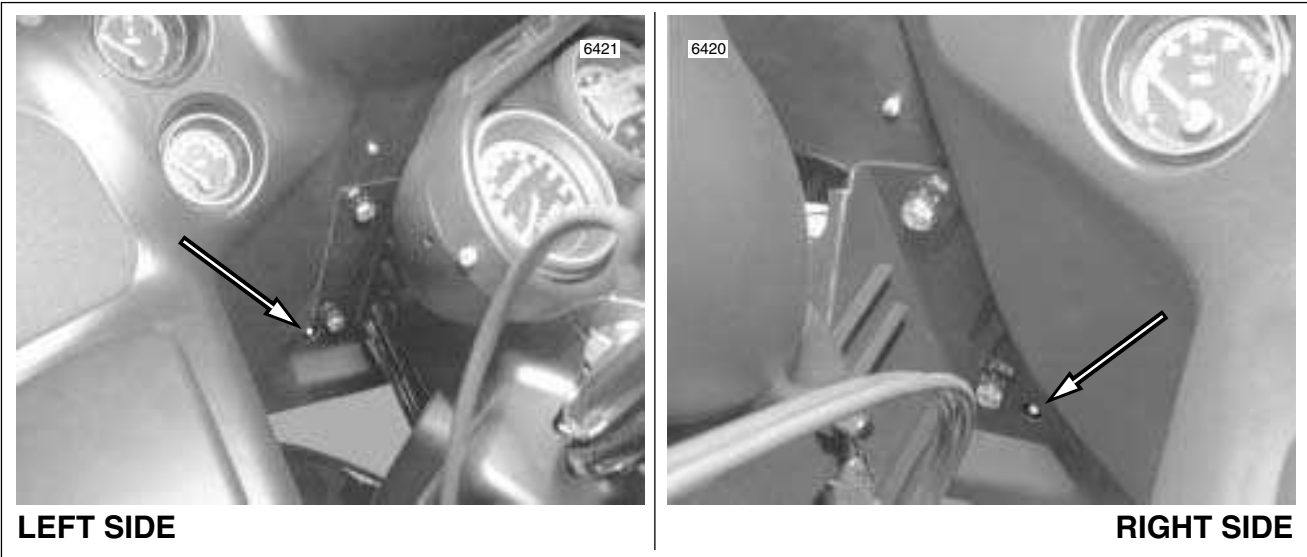

Figure 8-31. Rotate Hex Adjusters to Adjust Headlamp (FLTR)
10. Locate the hex adjusters near the bottom edge of the inner fairing. See Figure 8-31. Turning the adjusters causes the double headlamp housing to pivot around its upper mount.